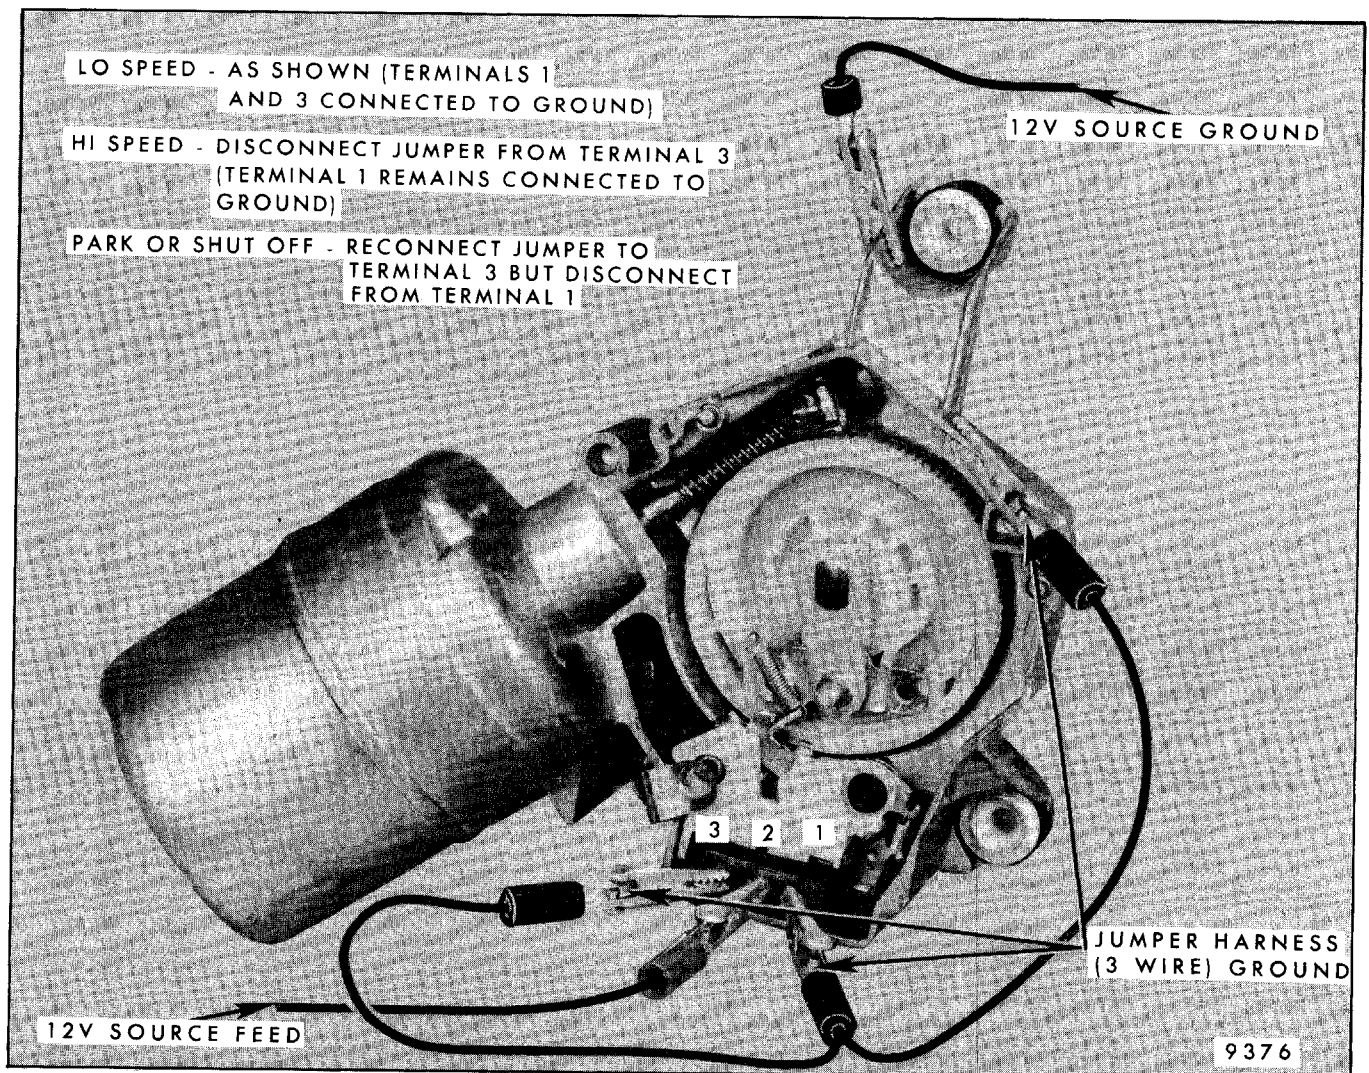

Fig. 2-52-Bench Checking Wiper Motor
2. When checking wiper operation, operate wiper independently of the car wiring or wiper switch as shown in Figure 2-52. Check wiper operation in OFF, LO and HI positions.
2. Connect 12V source to wiper, feed side to center terminal, ground side to gear housing (Fig. 2-52). Do not connect jumper to terminal 1 and 3.
2. Check wiper for LO speed operation (Fig. 2-52). If wiper has HI speed only, check the following items:
1. Check for grounded condition in the internal black lead that connects to wiper terminal 3. Refer to Figure 2-52 for terminal 3 location.
2. Connect wiper to operate in LO speed (Fig. 2-52). Connect ammeter (range 0-30 amps.) in feed wire circuit to wiper and observe current draw. Allow motor to run until it becomes hot (see Specification Chart, Fig. 2-73).